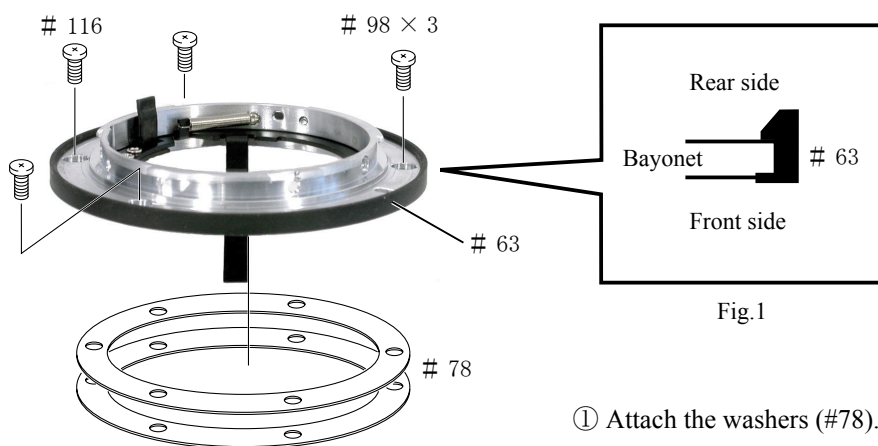

Fig.1
- ① Attach the washers (#78).
- ② Set the bayonet mount with 3 screws (#98) and the screw (#116).
- Attach the rubber ring (#63) to the bayonet mount at the position as shown in Fig.1.